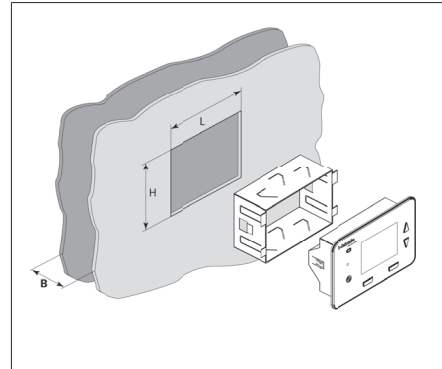

Fig. 52 Installing the programmable control panel
5. Cut the aperture in the desired installation location (see Fig. 52).